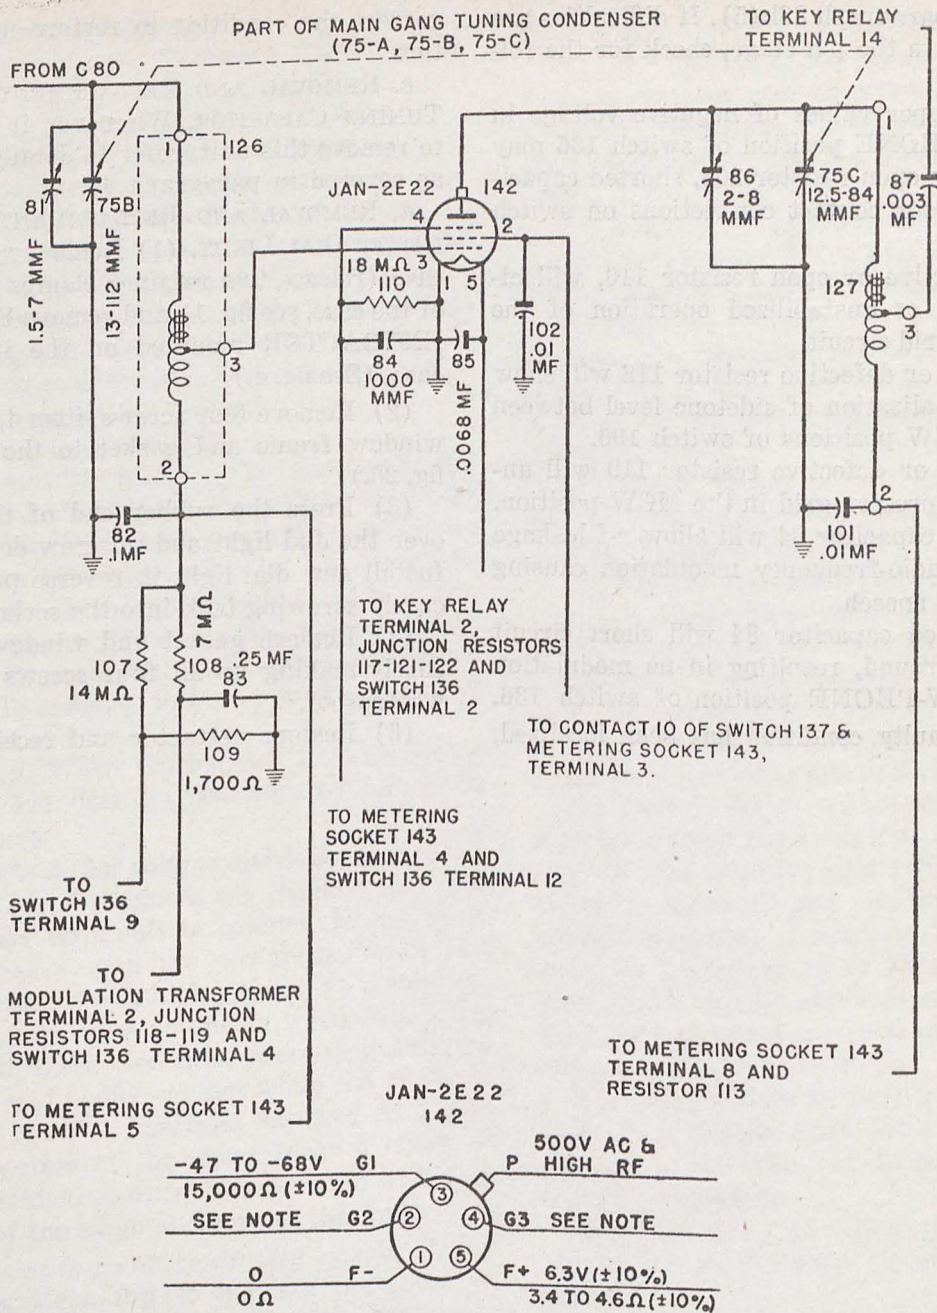

Figure 41. P-a stage schematic for transmitter of Radio Receiver and Transmitter BC-1306.
a. STAGE DATA. (1) P-a stage schematic, figure 41.
(2) Parts identification illustrations.
(3) Voltage and resistance values of socket 142, stage schematic, figure 41.
(4) Parts data, table XX.
(3) *Point-to-point continuity check.* If the preceding steps fail to indicate the cause of trouble, perform a point-to-point continuity check, referring to the stage schematic, figure 41, and to the parts identification illustrations, figures 6, 7, 8, and 55. Check also for faulty soldered joints and defective wiring.
Table XX. Parts data, power amplifier (transmitter) (fig. 41).